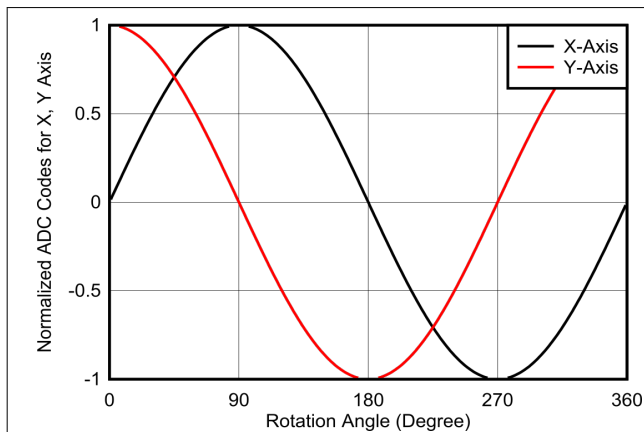
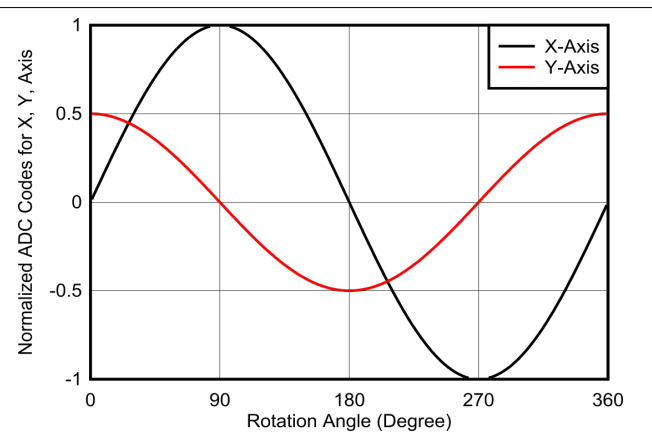

Figure 7-17. X and Y Sensor Data for Full 360 Degree Rotation for On-Axis Measurement
Figure 7-18. X and Y Sensor Data for Full 360 Degree Rotation for Off-Axis Measurement
- A normalized plot for the full 360 degree rotations are represented in Figure 7-17 or Figure 7-18.